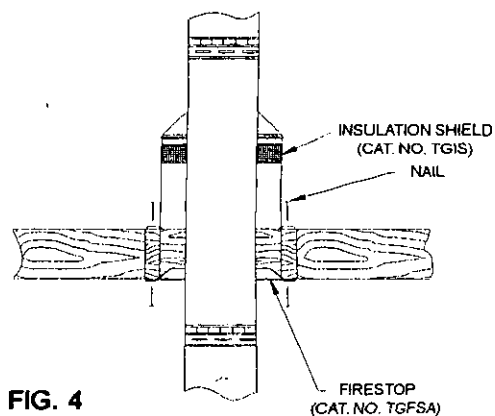

FIG. 4
7. The first chimney section through the joist area into attic is to be approximately two (2) feet. If the pipe sections in the attic are not enclosed, an insulation shield (TGIS) must be installed. Lower insulation shield (TGIS) over TG pipe until the flange is resting on the joist. Secure the TGIS in place by nailing the flange to the joist. See Figure 4. If the section within the attic area is to be chase enclosed, the TGIS is not required.